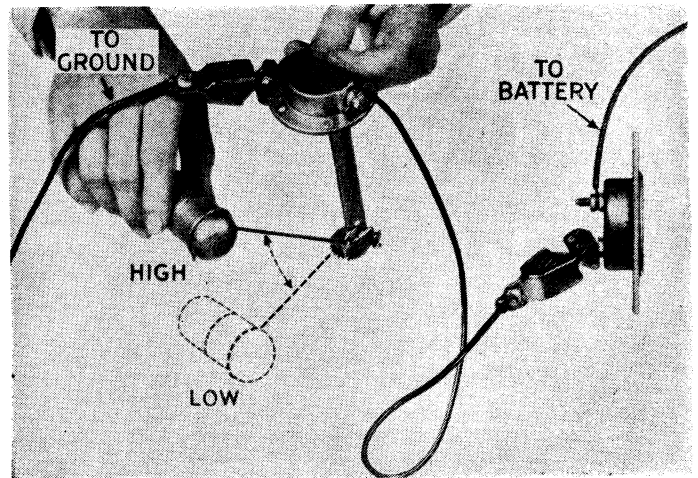

Fig. 2 Showing use of spare tank unit to check operation of dash unit
7. Connect the battery cable. Move the arm of the tester back and forth slowly, Fig. 2. If the dash unit is okay, the pointer will move from "Empty" to "Full" freely. If the pointer doesn't move, or only moves part way, the dash unit is defective and a new AC dash unit must be installed.
4. Turn on ignition switch. Allow about one minute for the dash unit to heat, then operate the float arm of the spare tank unit (see Fig. 2).